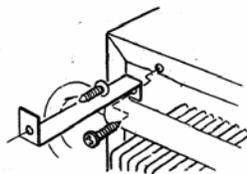

FIG. 2
The refrigerator must be secured in the recess to prevent movement. A suggested method of securing is by means of metal brackets about 20mm (W) wide, (which should be made to suit the particular installation), screwed to the rear of the refrigerator by means of the two existing cooling unit fixing screws (fig. 2) and to the rear wall of the caravan.